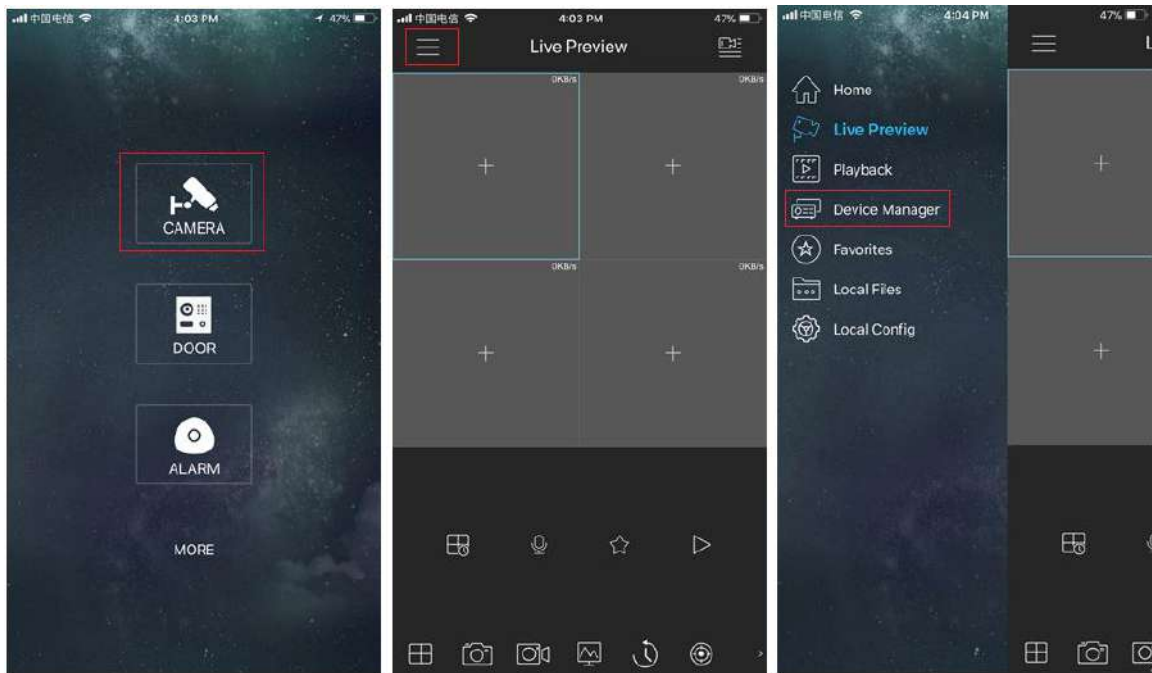

Figure 4-205
- 1) Click  and select Device Manager. See Figure 4-205.